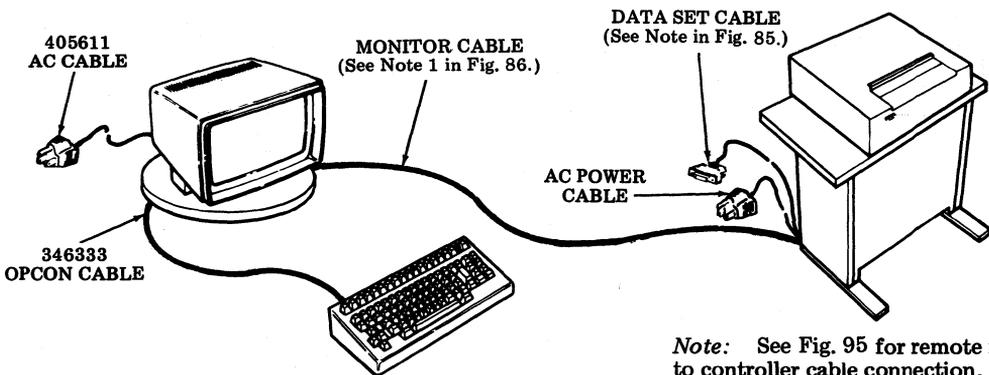

Fig. 89—KDP Remote Opcon and Monitor 80-Column Friction or Tractor Feed Printer
- Fig. 89 — KDP Remote Opcon and Monitor 80-Column Friction or Tractor Feed Printer